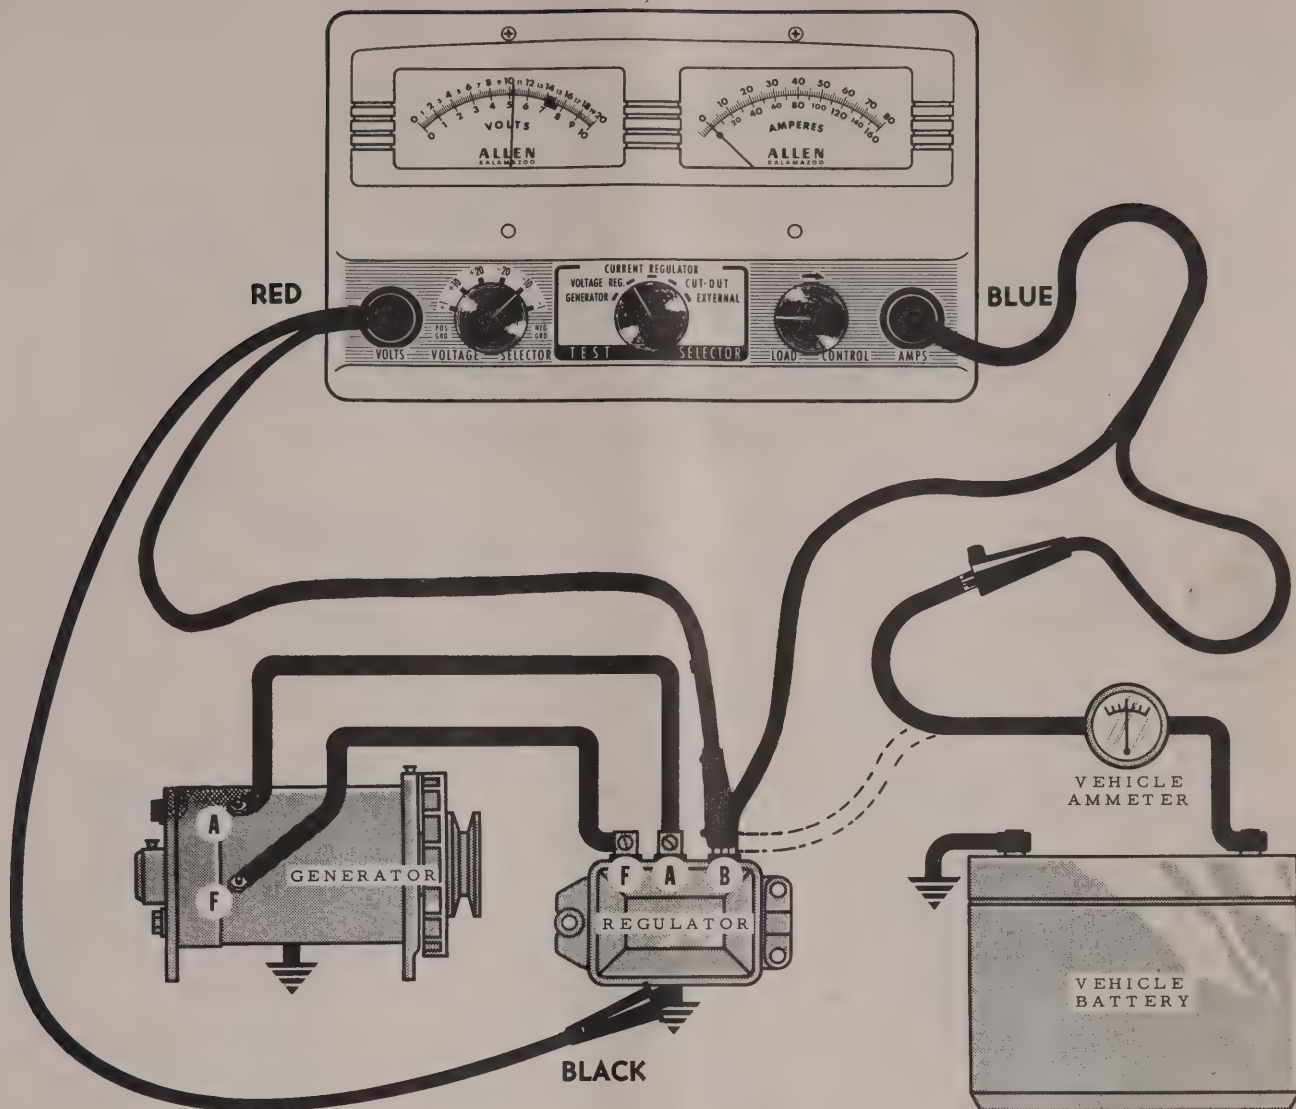

FIG. 5
2. Make connections as shown, Figure 5.